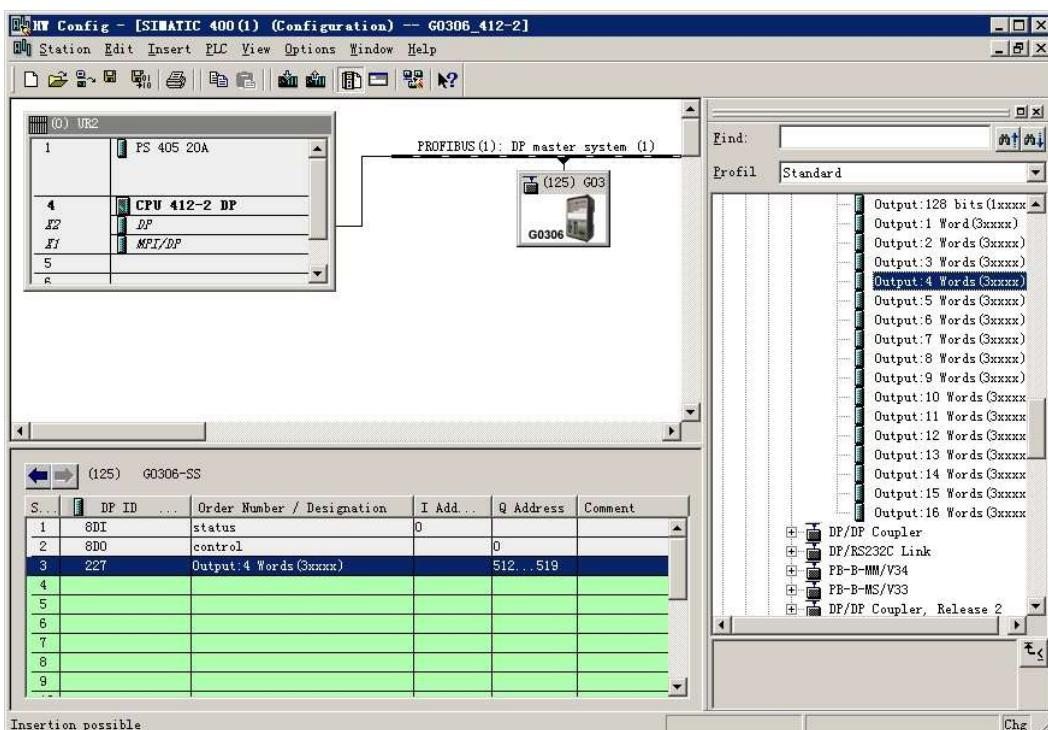

Figure 48 Add“Output:4 Words (3xxxx)”module
a) Add“Output:4 Words (3xxxx)”module, as shown in Figure 48: